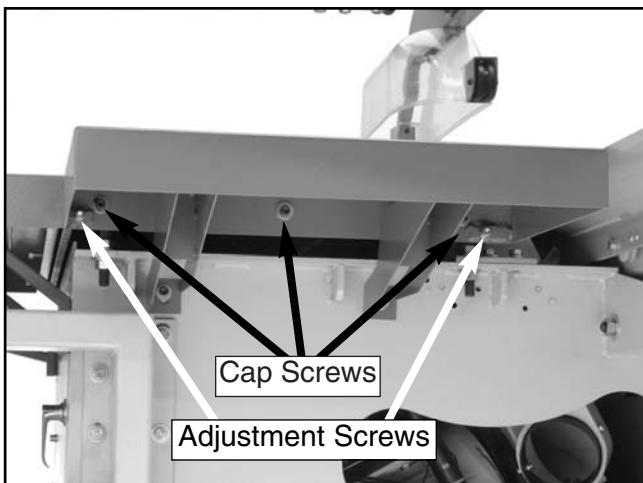

Figure 39. Small extension table installed.
3. Position the small extension table over the holes on the cast iron table and secure it with the three cap screws that you removed in **step 2** (**Figure 39**). Note—*Get assistance positioning the table and holding it in place while installing.*
4. Use the adjustment screws (**Figure 39**) under the extension table to level the top surface with the saw table.